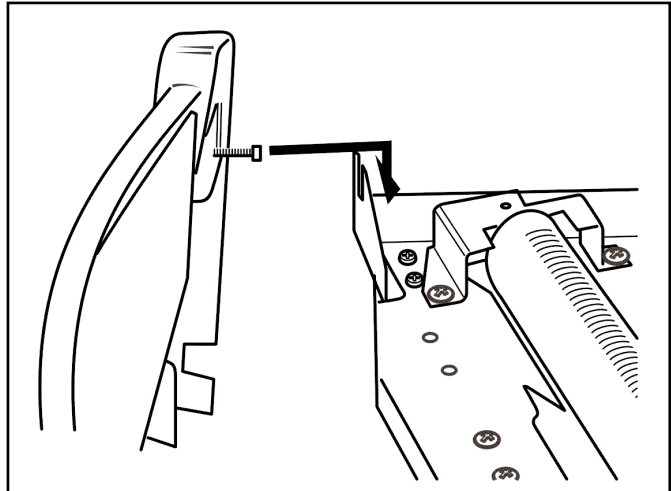

Figure 18. Firefront casting location
1. To refit the decorative firefront locate the two screw heads through the keyhole slots in the brackets located on top of the burner. If the screw heads do not project enough or project too far, the screws can be adjusted. Lower the casting so that it rests on the hearth. See figure 18.